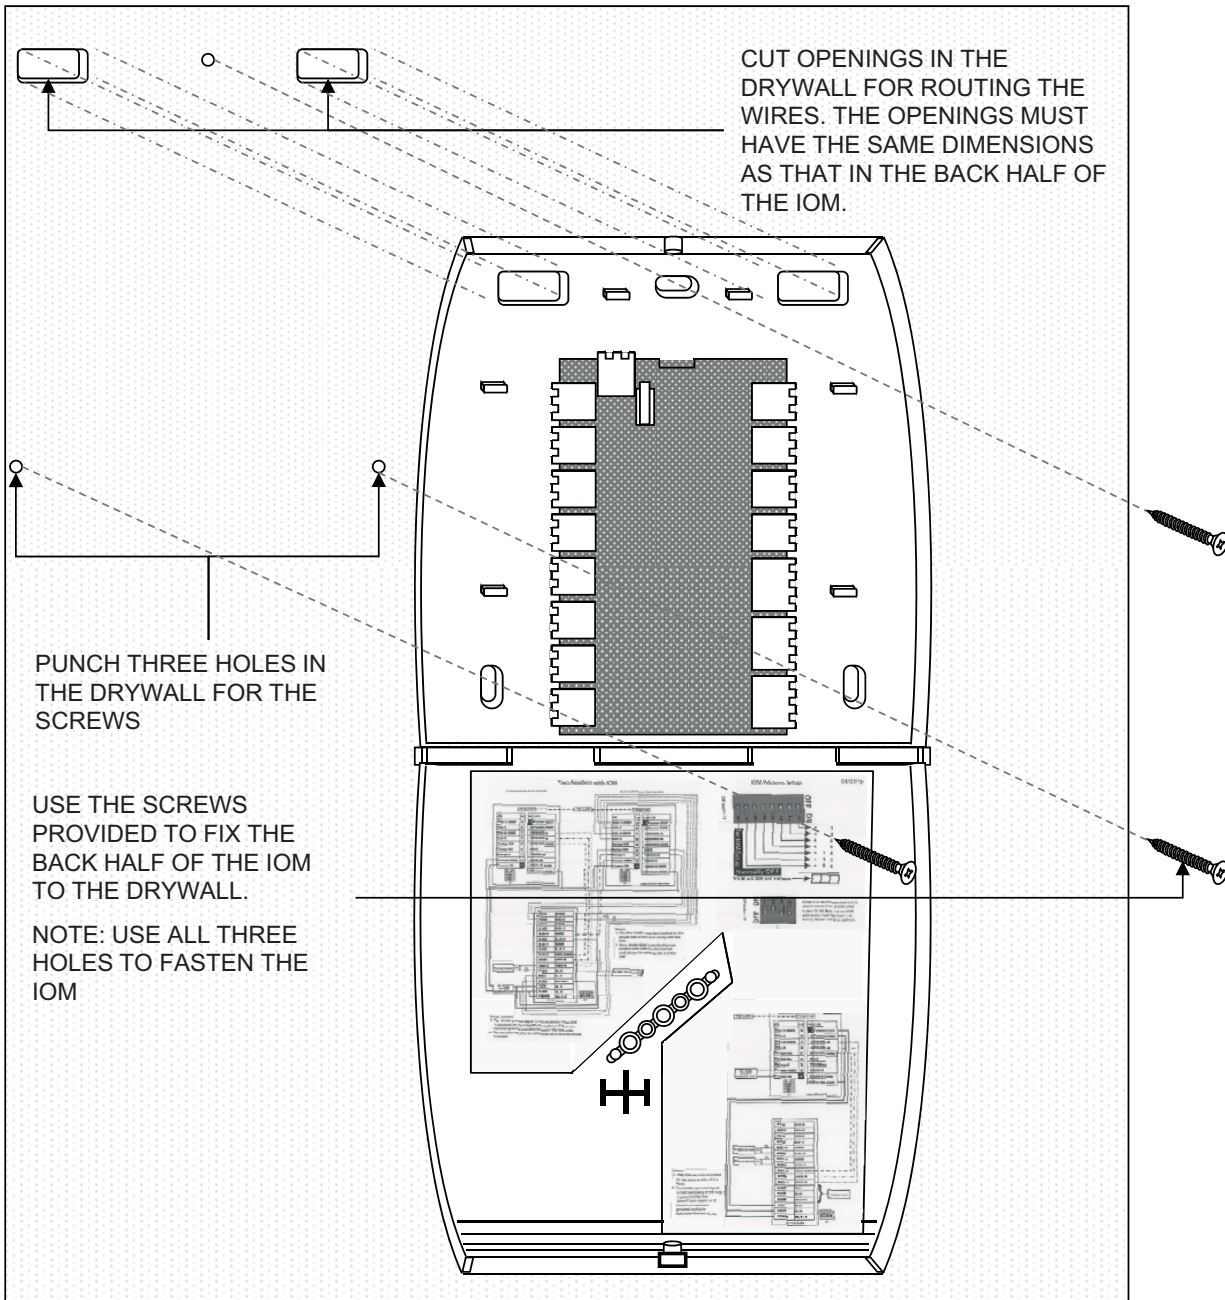

Fig. 14. Mounting the IOM on a drywall
2. Use the back half to mark out the position of the IOM on the drywall. Also mark the positions of the mounting screws and the openings for routing the cables. See Fig.14.
3. Cut the two cable openings on the drywall using suitable tools. The openings should be aligned with the knock-out holes provided on the back half for routing the cables. Also punch three holes at suitable places in the drywall for the mounting screws. Use the wall anchors for additional holding strength. See Fig.14.
4. Ensure that the knock-out holes on the back half have been opened up. (Knock-out holes are also provided on both sides of the IOM enclosure in case field conditions require routing the wires from the sides.) Hold the back half in position on the drywall. Align the mounting screws with their holes and fasten the back half securely on the drywall using the three screws. See Fig.14.